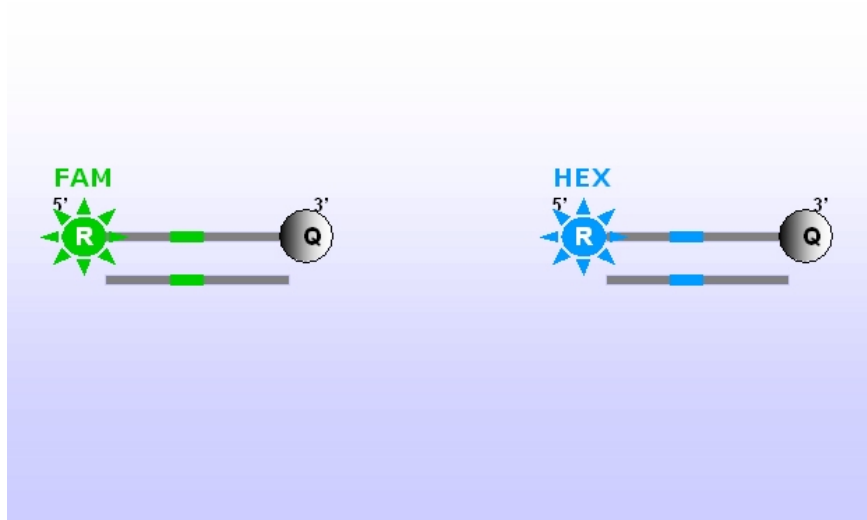

Fig. 1
The kit takes advantage of an Oligo Mix containing a Adenovirus specific probes linked at its 5'-end to a FAM molecule (6-carboxyfluorescein). In addition to this, the Oligo Mix contains internal control (IC) specific probes, linked at its 5'-end to a HEX molecule (hexa-chloro-fluoresceine). The two probes have at their 3'-ends a quencher called BHQ-1 (fig.1). If excited, the integral probe does not emit fluorescence, because the closeness of the quencher to the reporter prevents this last from emitting fluorescence (quenching effect).